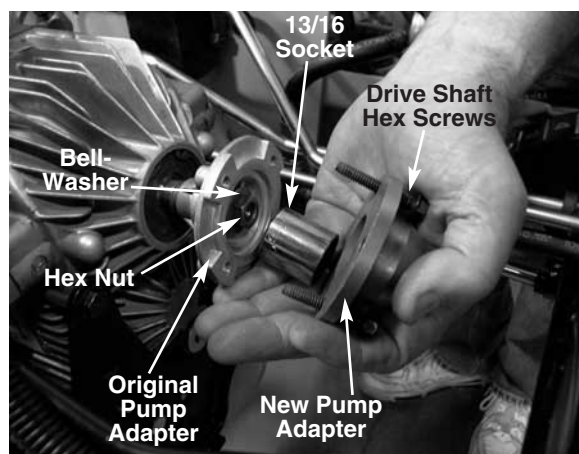

FIGURE 6.
10. Place a 13/16 socket against the nut with the opened end of the socket facing away from the nut. See figure 6.